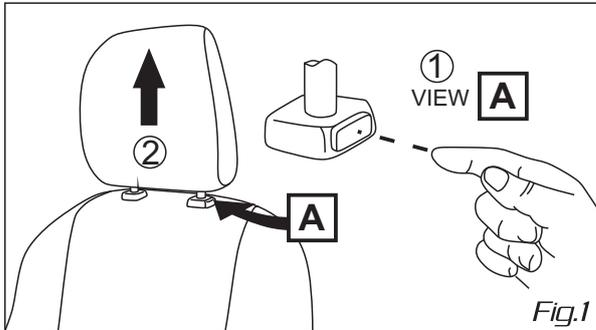

Fig.1
1. Remove the headrests from the front seats backrests (Fig.1)